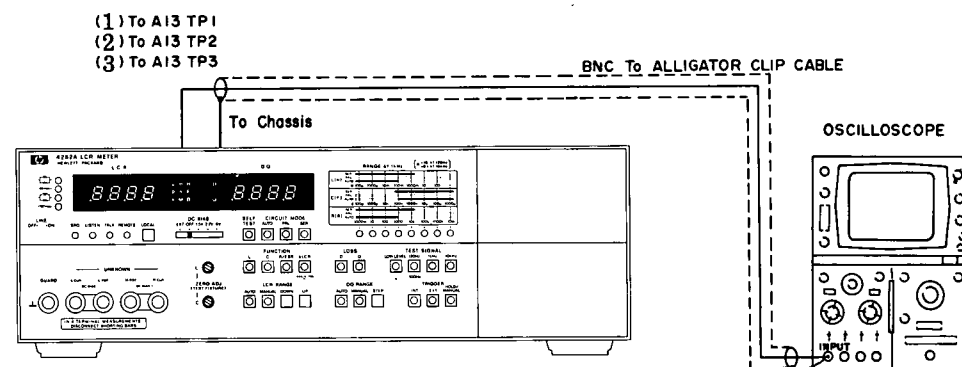

Figure 5-5. A13 Board Offset Adjustment.
(1) OFS - 1 ADJUSTMENT.
- a. Connect BNC to dual alligator clip cable between oscilloscope and 4262A test point A13TP1 and 4262A chassis (see Figure 5-5).
(2) OFS - 2 ADJUSTMENT.
- a. Connect BNC to dual alligator clip cable (or 1:1 oscilloscope probe) between oscilloscope and 4262A test point A13TP2 and 4262A chassis (see Figure 5-5).